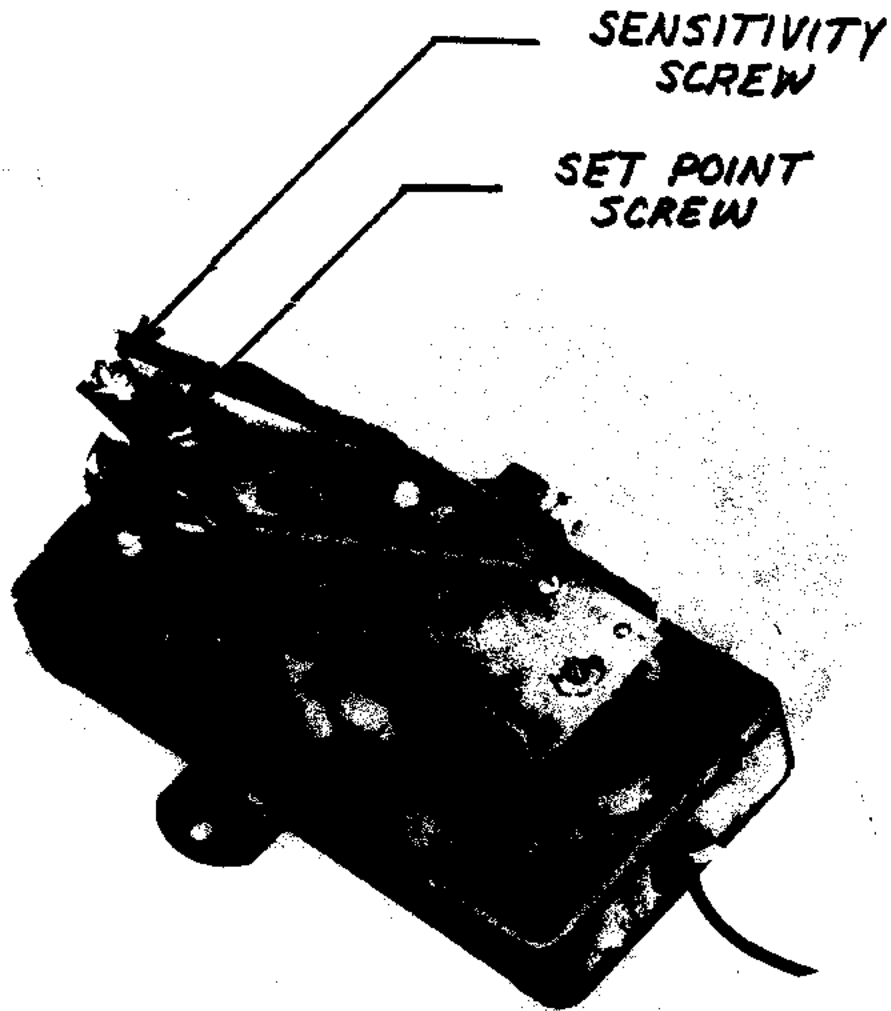

FIGURE 4
2. Turn sensitivity screw until output pressure exceeds 16 psig. (Figure 4)
3. Turn set point screw to 15 psig. (Figure 4)
4. Reduce the voltage input to 0 VDC. Output should be $3 \pm 1/4$ psig. If it is not, turn sensitivity screw part of a turn. (Figure 4)